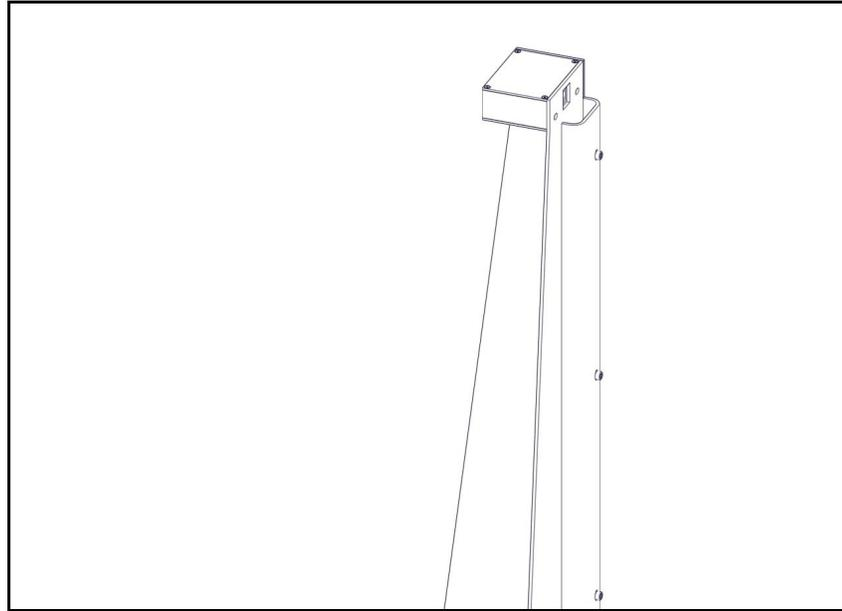

Figure 7
5. Place the height sensor, labeled **Top**, at the top of the corner where the side panels meet (see Figure 7), and align the screw holes.